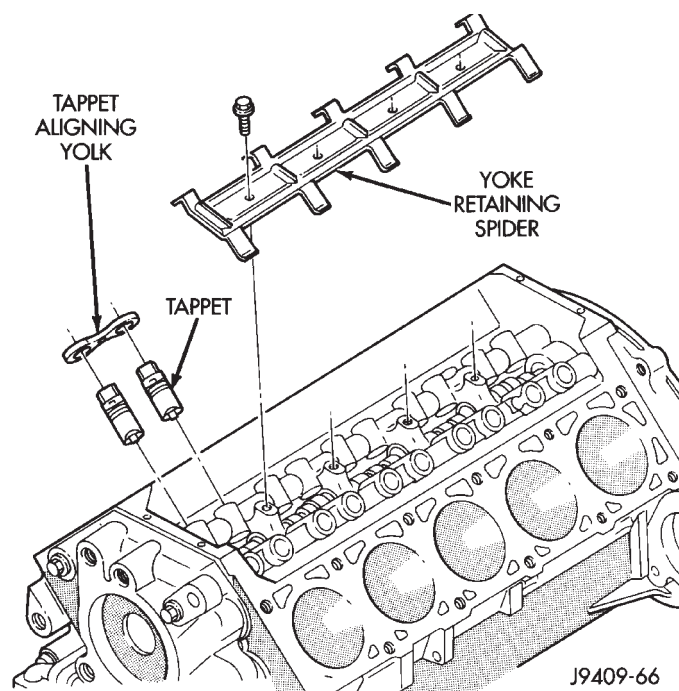

Fig. 26 Tappets, Aligning Yoke and Yoke Retaining Spider
(1) Disconnect the negative cable from the battery.
(2) Remove the air cleaner.
(3) Remove cylinder head cover.
(4) Remove rocker arm assembly and push rods. Identify push rods to ensure installation in original location.
(5) Remove upper and lower intake manifold.
(6) Cut the cylinder head gasket for accessibility if the end tappets are to be removed.
(7) Remove yoke retainer spider and tappet aligning yokes (Fig. 26).
(8) Pull tappet out of bore with a twisting motion. If all tappets are to be removed, identify tappets to ensure installation in original location.
(9) If the tappet or bore in cylinder block is scored, scuffed, or shows signs of sticking, ream the bore to next oversize. Replace with oversize tappet.
(10) Check camshaft lobes for abnormal wear.
(1) Lubricate tappets.
(2) Install tappets in their original positions. **Ensure that the oil bleed hole (if so equipped) faces forward.**
(3) Install tappet aligning yokes. Position the yoke retainer spider over the tappet aligning yokes (Fig. 26) Install the yoke retaining spider bolts and tighten to 22 N·m (16 ft. lbs.) torque.
(4) Install the push rods in their original location.
(5) Position the rocker arm assembly on the pedestal and align to the push rods. Install the bolts and tighten to 28 N·m (21 ft. lbs.) torque.
(6) Install lower and upper intake manifold.
(7) The cylinder head cover gasket can be used again. Install the gasket onto the head rail. **For the left side the number tab is at the front of engine with the number up. For the right side the number tab is at the rear of engine with the number up.**
(8) Position the cylinder head cover onto the gasket. Install the stud bolts and hex head bolts in the proper positions (Fig. 26). Tighten the stud bolts and the bolts to 16 N·m (144 in. lbs.) torque.
(9) Install the air cleaner.